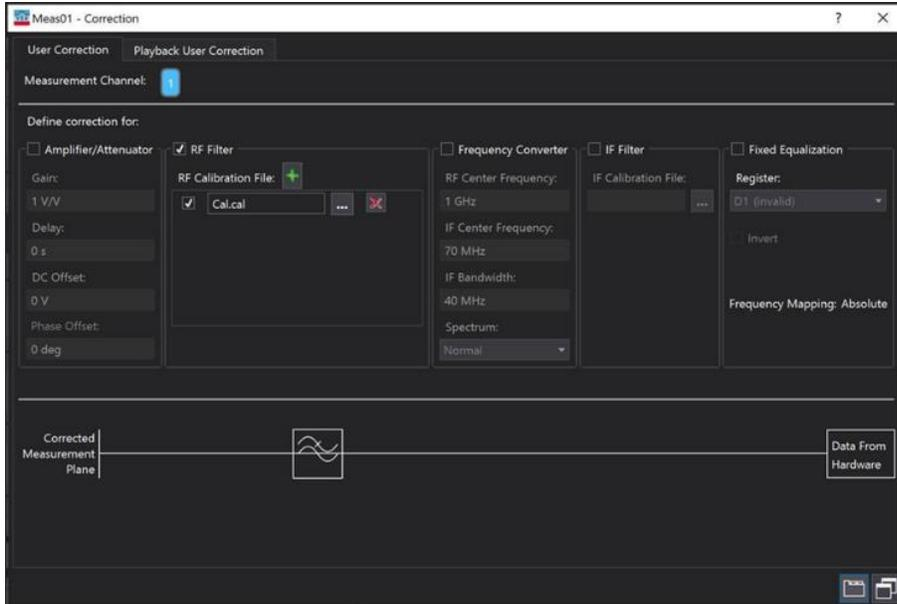

Figure 6. Apply Rcal calibration results with 89600 VSA measurement Using RCal with 89600 VSA to Calibrate the Whole Receiver System
5. Proceed to Input->User Correction, you will open a dialogue shown in Figure 6.